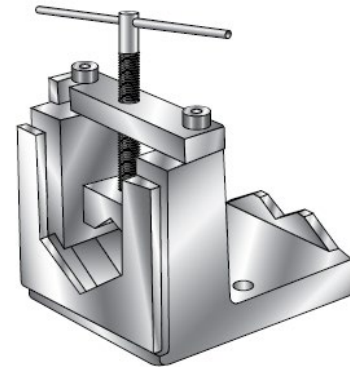

Figure 5
**Cutting with a Hacksaw** requires careful attention. It is essential to use a guide to assure square cut offs. We recommend our sawing vice (see Figure 5). Further, to minimize the residual burrs, a hacksaw blade of 32 teeth per inch minimum is suggested.